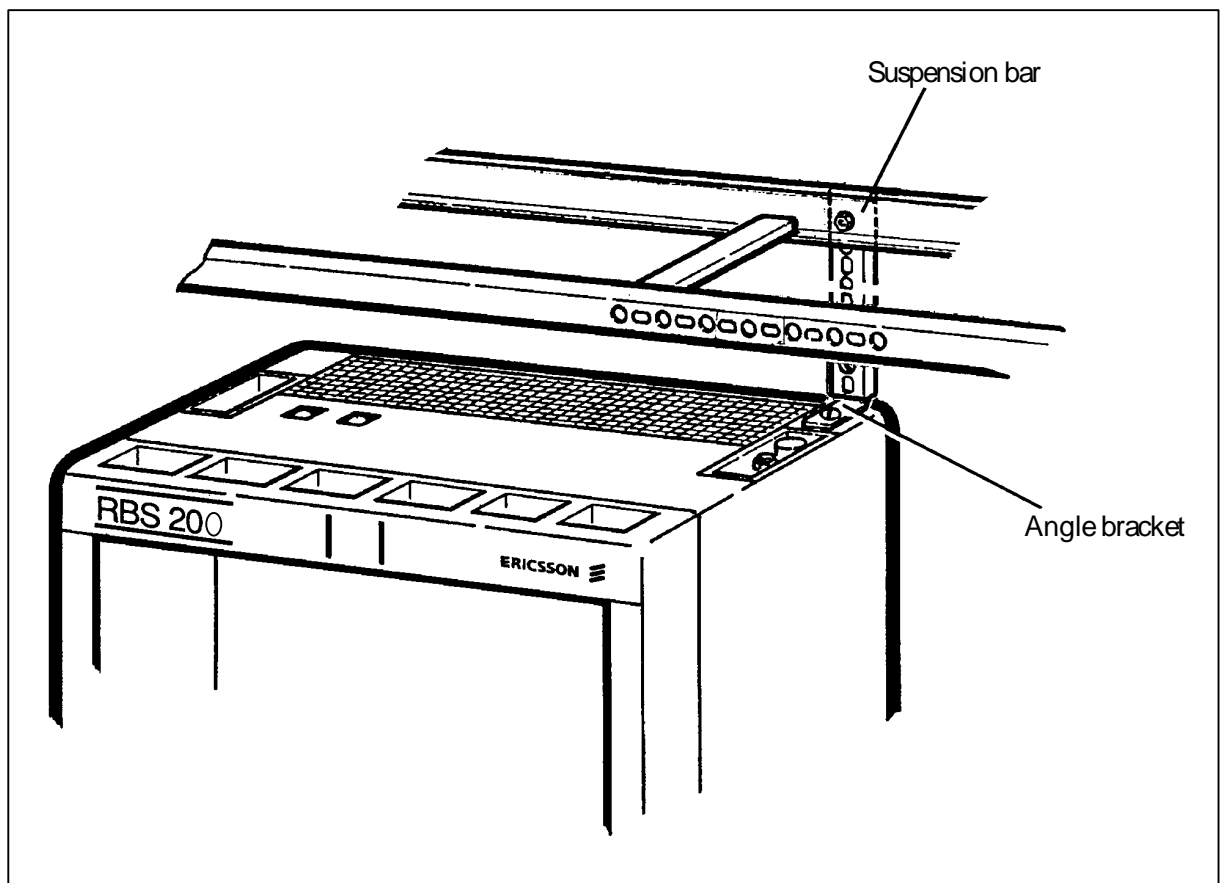

Figure 6 Fastening the cabinet to a ladder
10. Install a suspension bar using an angle bracket from the top of the cabinet(s) to the cable ladder or to the wall. See figure 6.